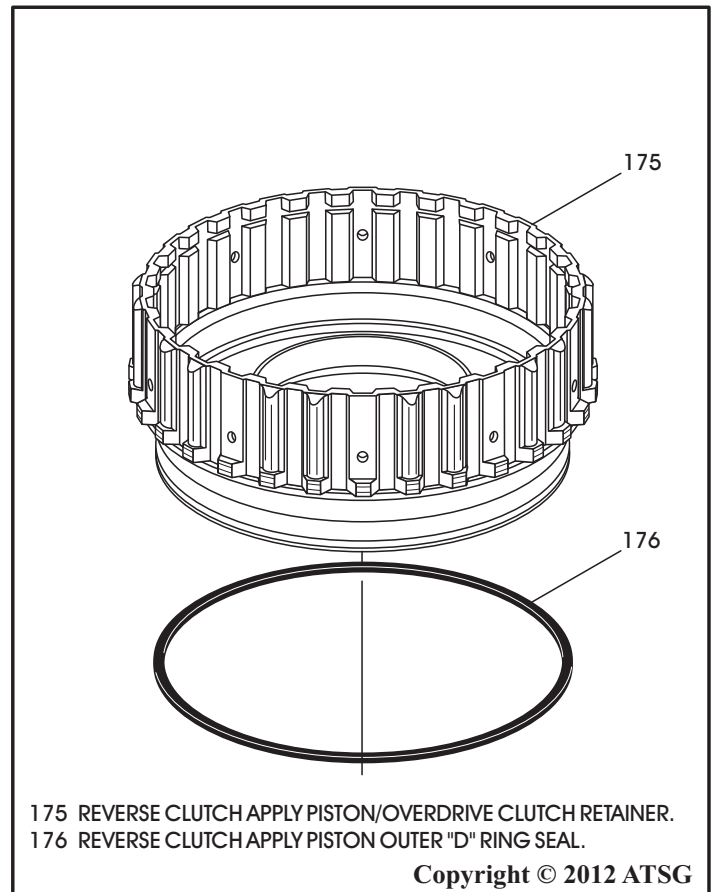

Figure 117
6. Install new outer "D" ring seal onto the reverse clutch apply piston, as shown in Figure 117, and lube with a small amount of Trans-Jel®.